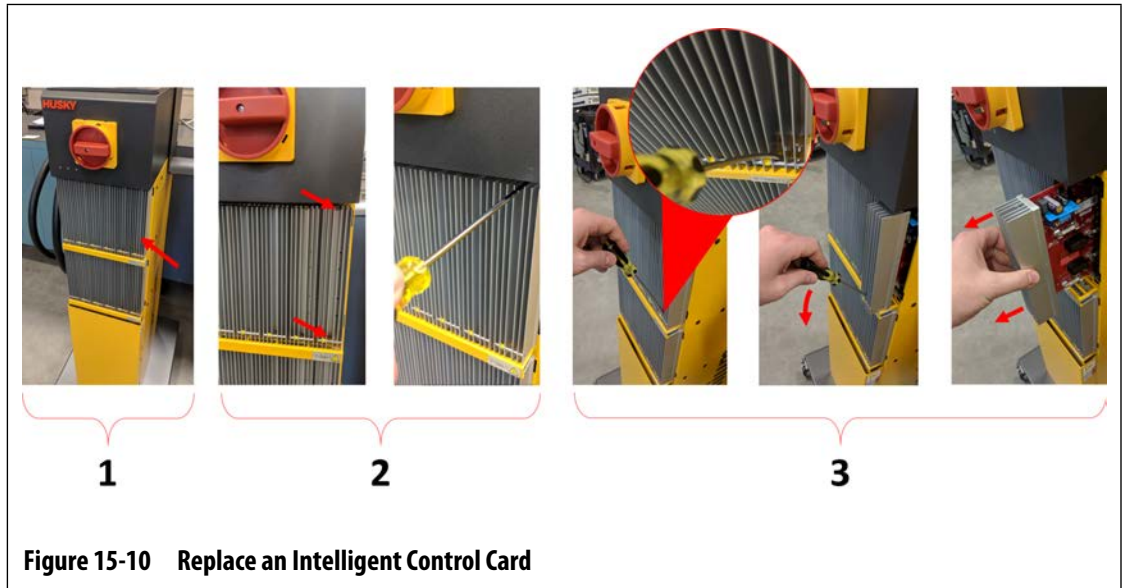

Figure 15-10 Replace an Intelligent Control Card
1. Find the Card Cage that contains the ICC² or ICC³ that has the fault. Refer to number 1 in Figure 15-10. Use the on-screen Card Layout feature to help in find the card.
4. Loosen the upper and lower slotted fasteners on the heat sink from the female threads in the cabinet. Refer to number 2 in Figure 15-10.
5. Slide a screwdriver between the silver post and the ledge on the cabinet and gently pry the board out. Refer to number 3 in Figure 15-10.
1. Find the Card Cage that contains the ICC² or ICC³ that has the fault. Refer to number 1 in Figure 15-10.